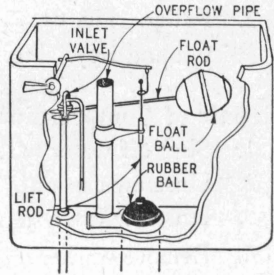

Fig. 64
1. **Cause:** Improper seating of rubber ball. Fig. 64.
- b. Replace rubber ball if worn. Fig. 64.